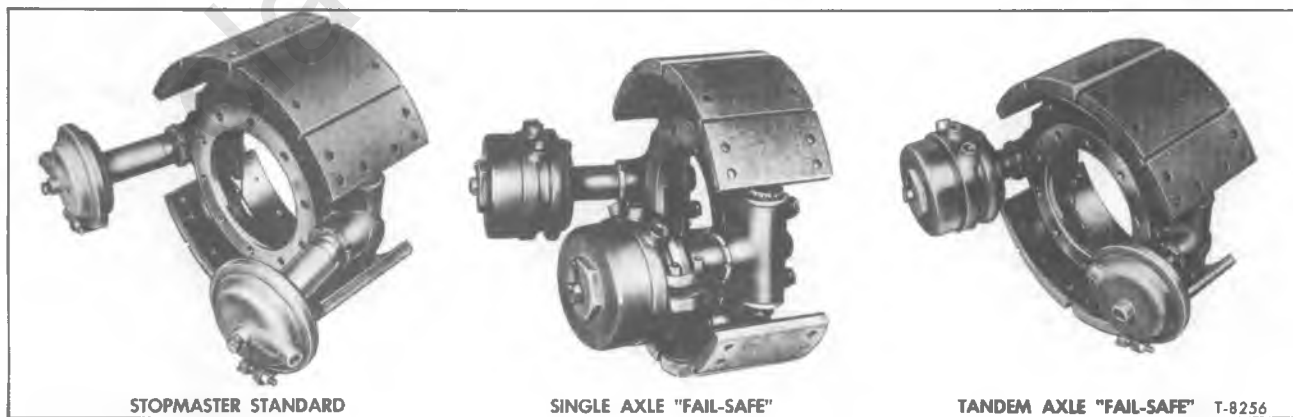

Figure 24—Stopmaster Brake Assemblies
The Stopmaster type brake differs from the conventional "S" cam type brake in several respects. The air chamber push rod is connected to the brake shoes through a series of wedges, rollers, and plungers rather than through a slack adjuster and camshaft. Stopmaster brakes are used at the rear wheels only. Stopmaster brakes employ two different type air chambers; (1) a standard air chamber which is operated by air pressure and (2) a "Fail-Safe" air chamber which can be operated either by air pressure or by spring pressure. There are three basic variations of Stopmaster brakes shown in figure 24; standard, single axle "Fail-Safe," and tandem axle "Fail-Safe."